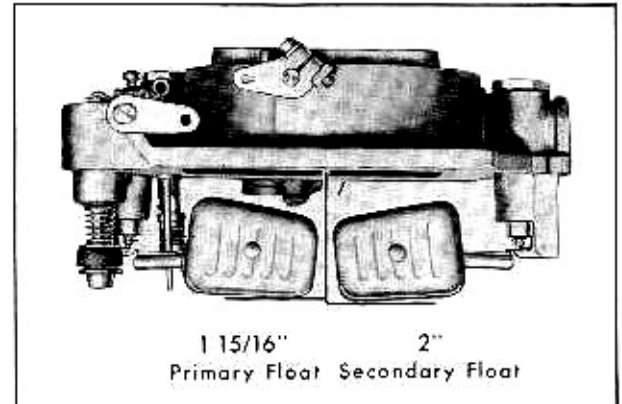

Fig. 12-28 Float Drop Adjustment
1. After performing the Float Level Adjustment, hold bowl cover assembly in upright position and note the distances which the floats drop, Fig. 12-28.
2. Measure from machined surface of bowl cover casting down to bottom and center of floats. Distances should be $1-15/16''$ for primary floats and $2''$ for secondary floats, as shown in Fig. 12-28.